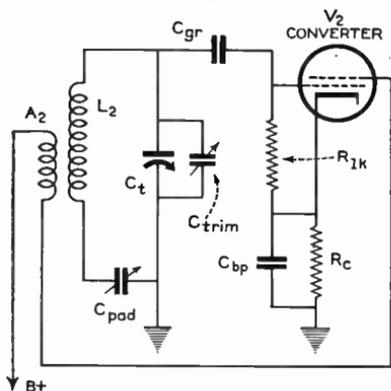

Fig. 1. In this simple tickler feedback oscillator the padding capacitor helps maintain the frequency difference between the oscillator and r-f stages.
**I**N THE superheterodyne receiver the greatest step up in radio-frequency amplification is obtained in the intermediate-frequency amplifier. Great amplification can be realized because of the fact that a relatively low frequency can be used, such as 175 kc or 455 kc, where the radio-frequency losses in coils and tuning condensers are much less than at high frequencies. To convert the incoming radio signal to the frequency of the intermediate-frequency amplifier it is necessary to use a local oscillator within the receiver. This oscillator is tuned to a frequency above or below (usually above) the incoming radio signal by an amount equal to the frequency at which the i-f amplifier performs. In most receivers today the first detector or mixer tube is of a type which combines the functions of mixer and oscillator in one bulb. It will be noted in the diagram that the oscillation circuit has two coils designated  $L_2$  and  $A_2$ .  $A_2$  is the tickler coil in the plate of the oscillator section and is fixed in position with respect to the secondary coil,  $L_2$ .  $L_2$  is tuned to the proper frequency by condenser  $C_1$ . It will be noted in Figs. 1, 3, and 5 that in series with coil  $L_2$  and condenser  $C_1$  is a variable condenser designated  $C_{pad}$ . The purpose of condenser  $C_{pad}$  is to help make the combination of  $L_2$  and  $C_1$  tune to a higher frequency than the signal circuit of the r-f stage. Without the use of the series padding condenser shown the oscillator circuits would not track properly with the r-f circuits.
Figs. 1 to 6 illustrate oscillator circuits in use in present day radio receivers. The types of tubes employed in these circuits ( $V_2$ ) were discussed in
As was mentioned above, Figs. 1, 3, and 5 use a padding capacitor ( $C_{pad}$ )
Except for this difference in tuning condenser plates the circuits in Figs. 1 and 2 are identical. An oscillator circuit of this type is commonly called a "tickler feedback" circuit.